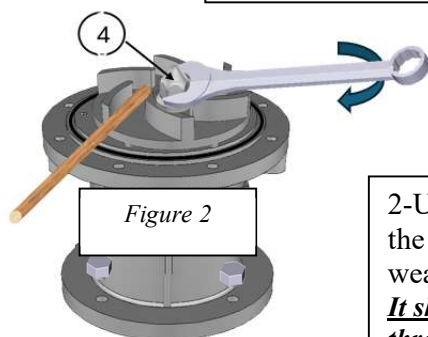

Figure 2
- 2- Unscrew the impeller lock nut (4), remove the impeller (7) and check the o-rings (6) for wear (Figures 2 and 3)